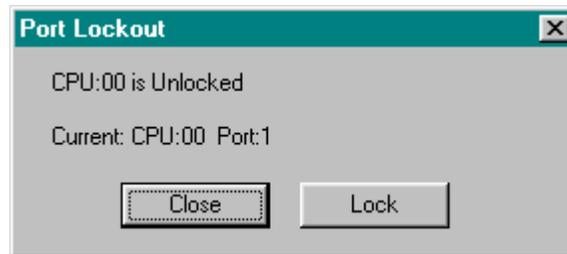

Figure 6.12a
1. Click **P**ort Lockout from the PLC **U**tilities menu (Alt+U, O). The Port Lockout dialog box appears (Figure 6.12a). Click **L**ock or **U**nlock from the Port Lockout on the Port Lockout dialog box.